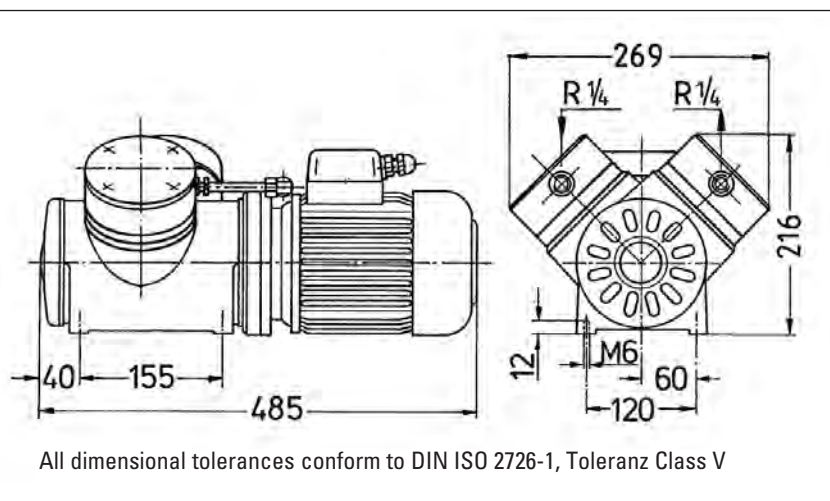

Fig. 3: Dimensions of the pumps
- The dimensions of the mountings are given in figures 3 to 4